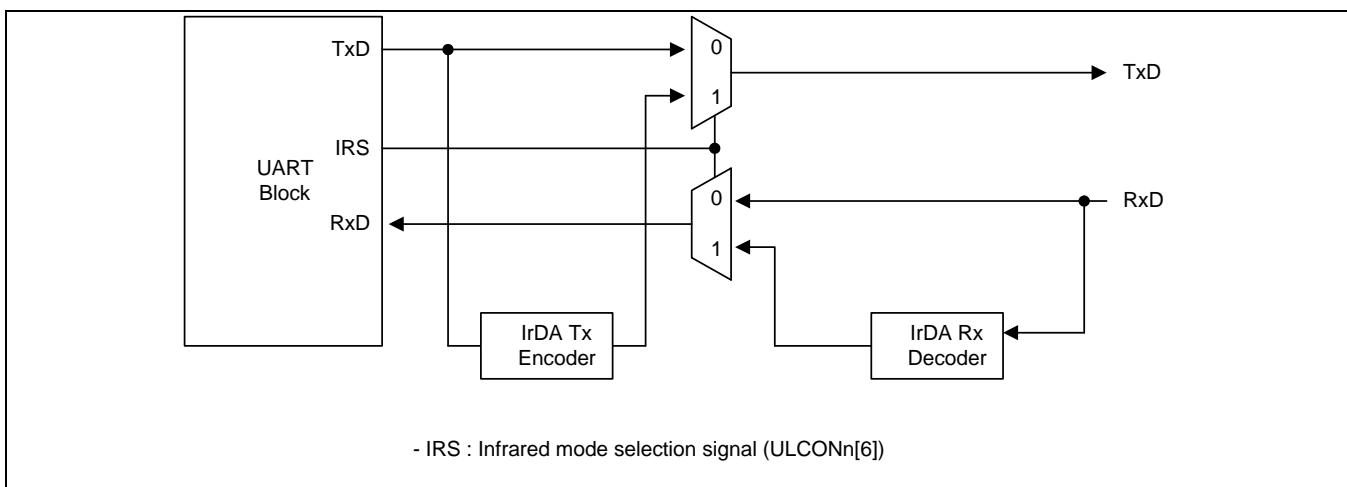

Figure 31-4. IrDA Function Block Diagram
31.3.7 INFRA-RED (IR) MODE
The 6410 UART block supports infra-red (IR) transmission and reception, which can be selected by setting the Infra-red-mode bit in the UART line control register (ULCONn). Figure 31-4 illustrates how to implement the IR mode.